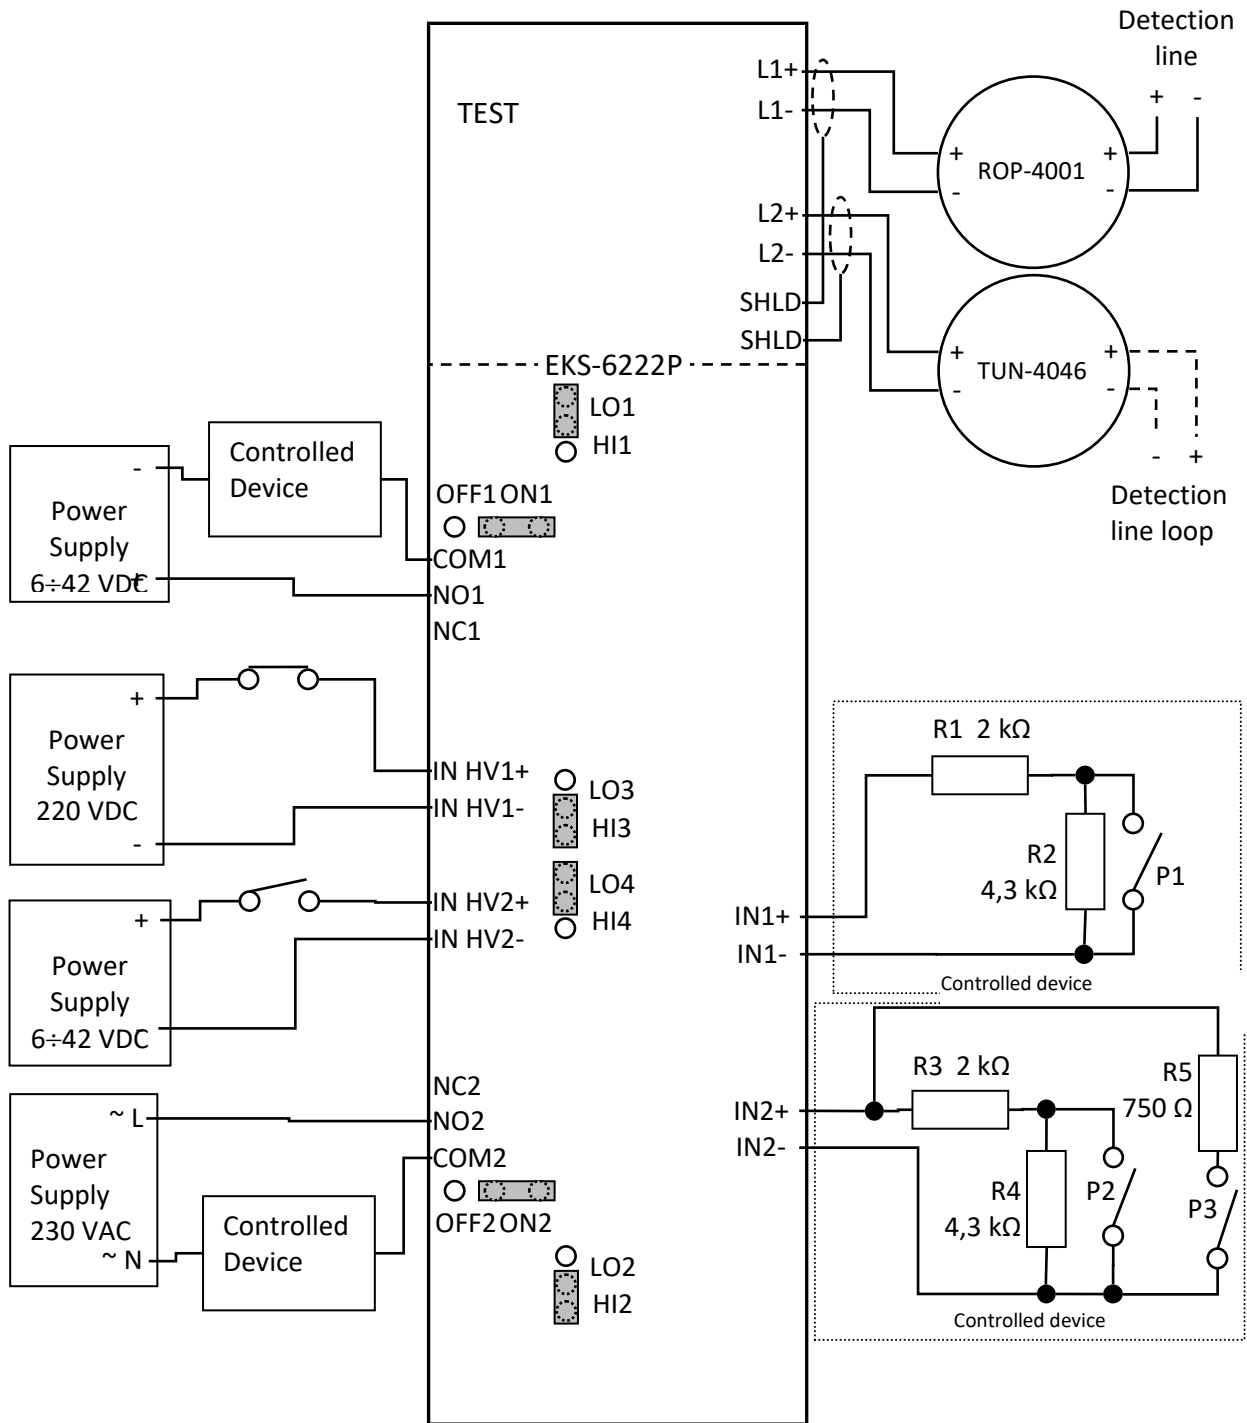

Figure 7.1 EKS-3222P Sample connection diagram
Connection method of EKS-3222P (2 high-voltage inputs (IN HV), 2 parametric inputs (IN) and 2 high-power outputs (12 A at 230 V) is shown in the Figure 7.1.
When connecting installation cables, use a screwdriver, the working part of which should be inserted into the smaller opening of the connector, then insert the cable into the larger opening and pull out the screwdriver. It is recommended to use a short bent screwdriver, 3,5×0.5 mm, cat. no. WAGO 210-258 (available for purchase at Polon-Alfa). Connect the cables as described at the connectors. There is a sticker on the enclosure cover that shows the functions of EKS-3222P terminals, depending on the element type, as shown in the Figure 7.1. Connect the shields of detection line cables to the fields marked as SHLD. Route the alarm system cables in accordance with the regulations applicable to low-voltage electrical installations.